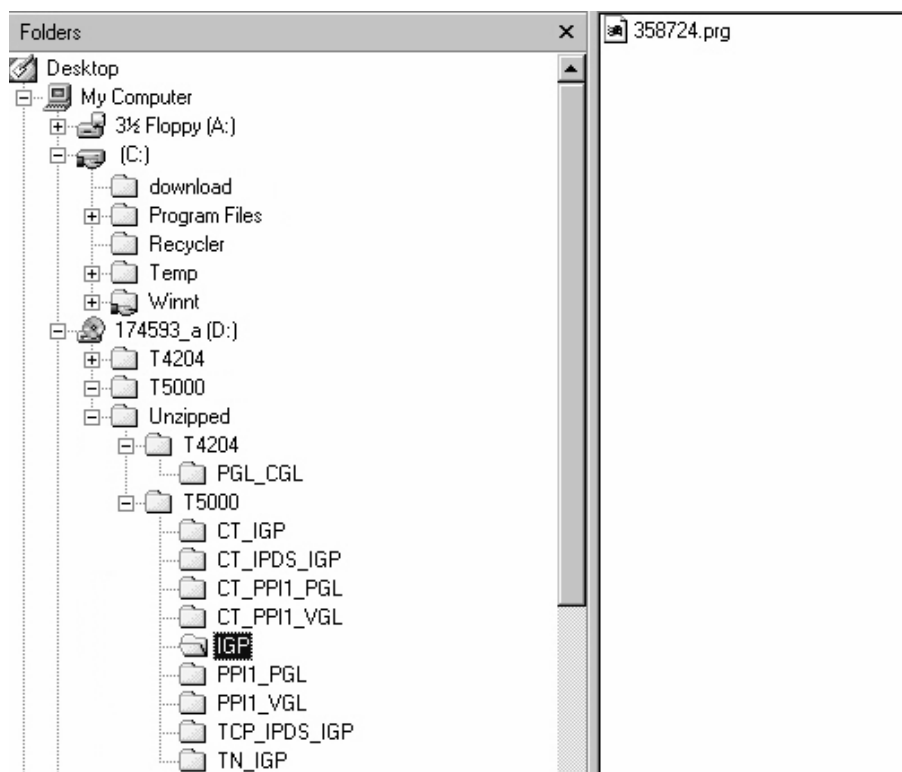

Figure 7. Navigating to the Appropriate Emulation File on the CD
8. Using Windows Explorer, navigate to the appropriate file on the CD (using the Unzipped directory) based on the printer model number and desired emulation, e.g., Unzipped ► T5000 ► IGP. (See Figure 7.)